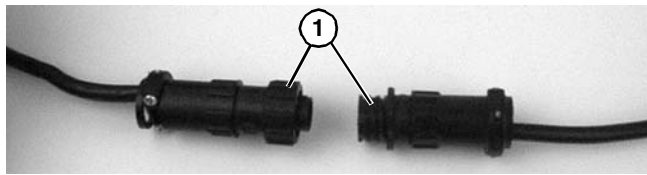

Figure 37
1. For DC variable speed motor, unplug motor cord at disconnect (**Figure 37, item 1**).